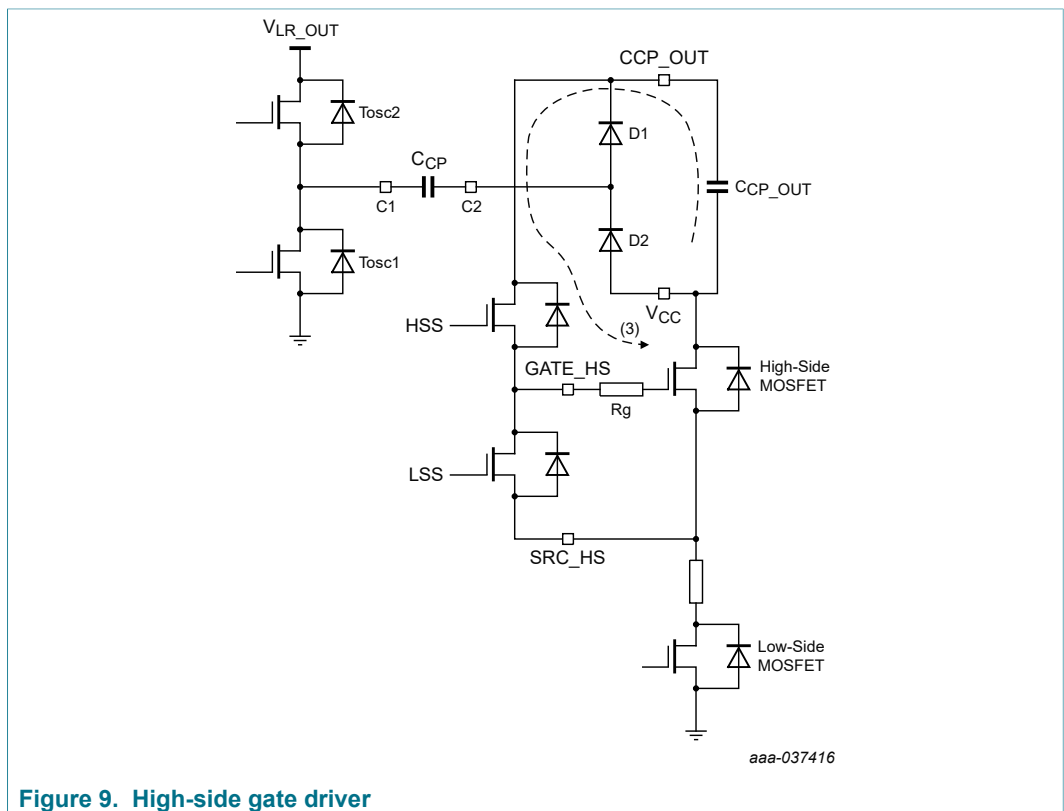

Figure 9. High-side gate driver
Figure 9 represents a simplified circuitry of the high-side gate driver. Transistors  $Tosc1$  and  $Tosc2$  are the oscillator-switching MOSFETs. When  $Tosc1$  is on, the oscillator is at low level. When  $Tosc2$  is on, the oscillator is at high level. The capacitor  $C_{CP\_OUT}$  provides peak current to the high-side MOSFET through  $HSS$  during turn-on (3).